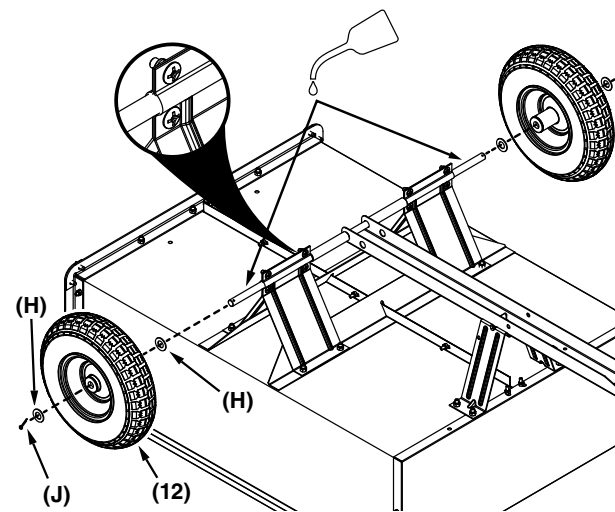

Figure 14
STEP 15 (SEE FIGURE 14): Attach the wheels to the axle by installing a large washer (H), a wheel (12), another large washer (H) and a 1/8" cotter pin (J). Repeat this step for the other side.